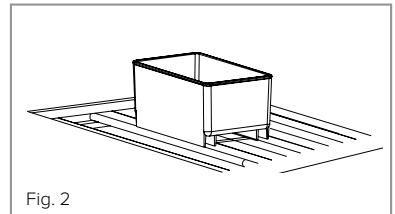

Fig. 2
- Place the reservoir over the special lugs toward the back of the top shelf only, as shown in fig. 2. Ensure it is located correctly to prevent water spillage.